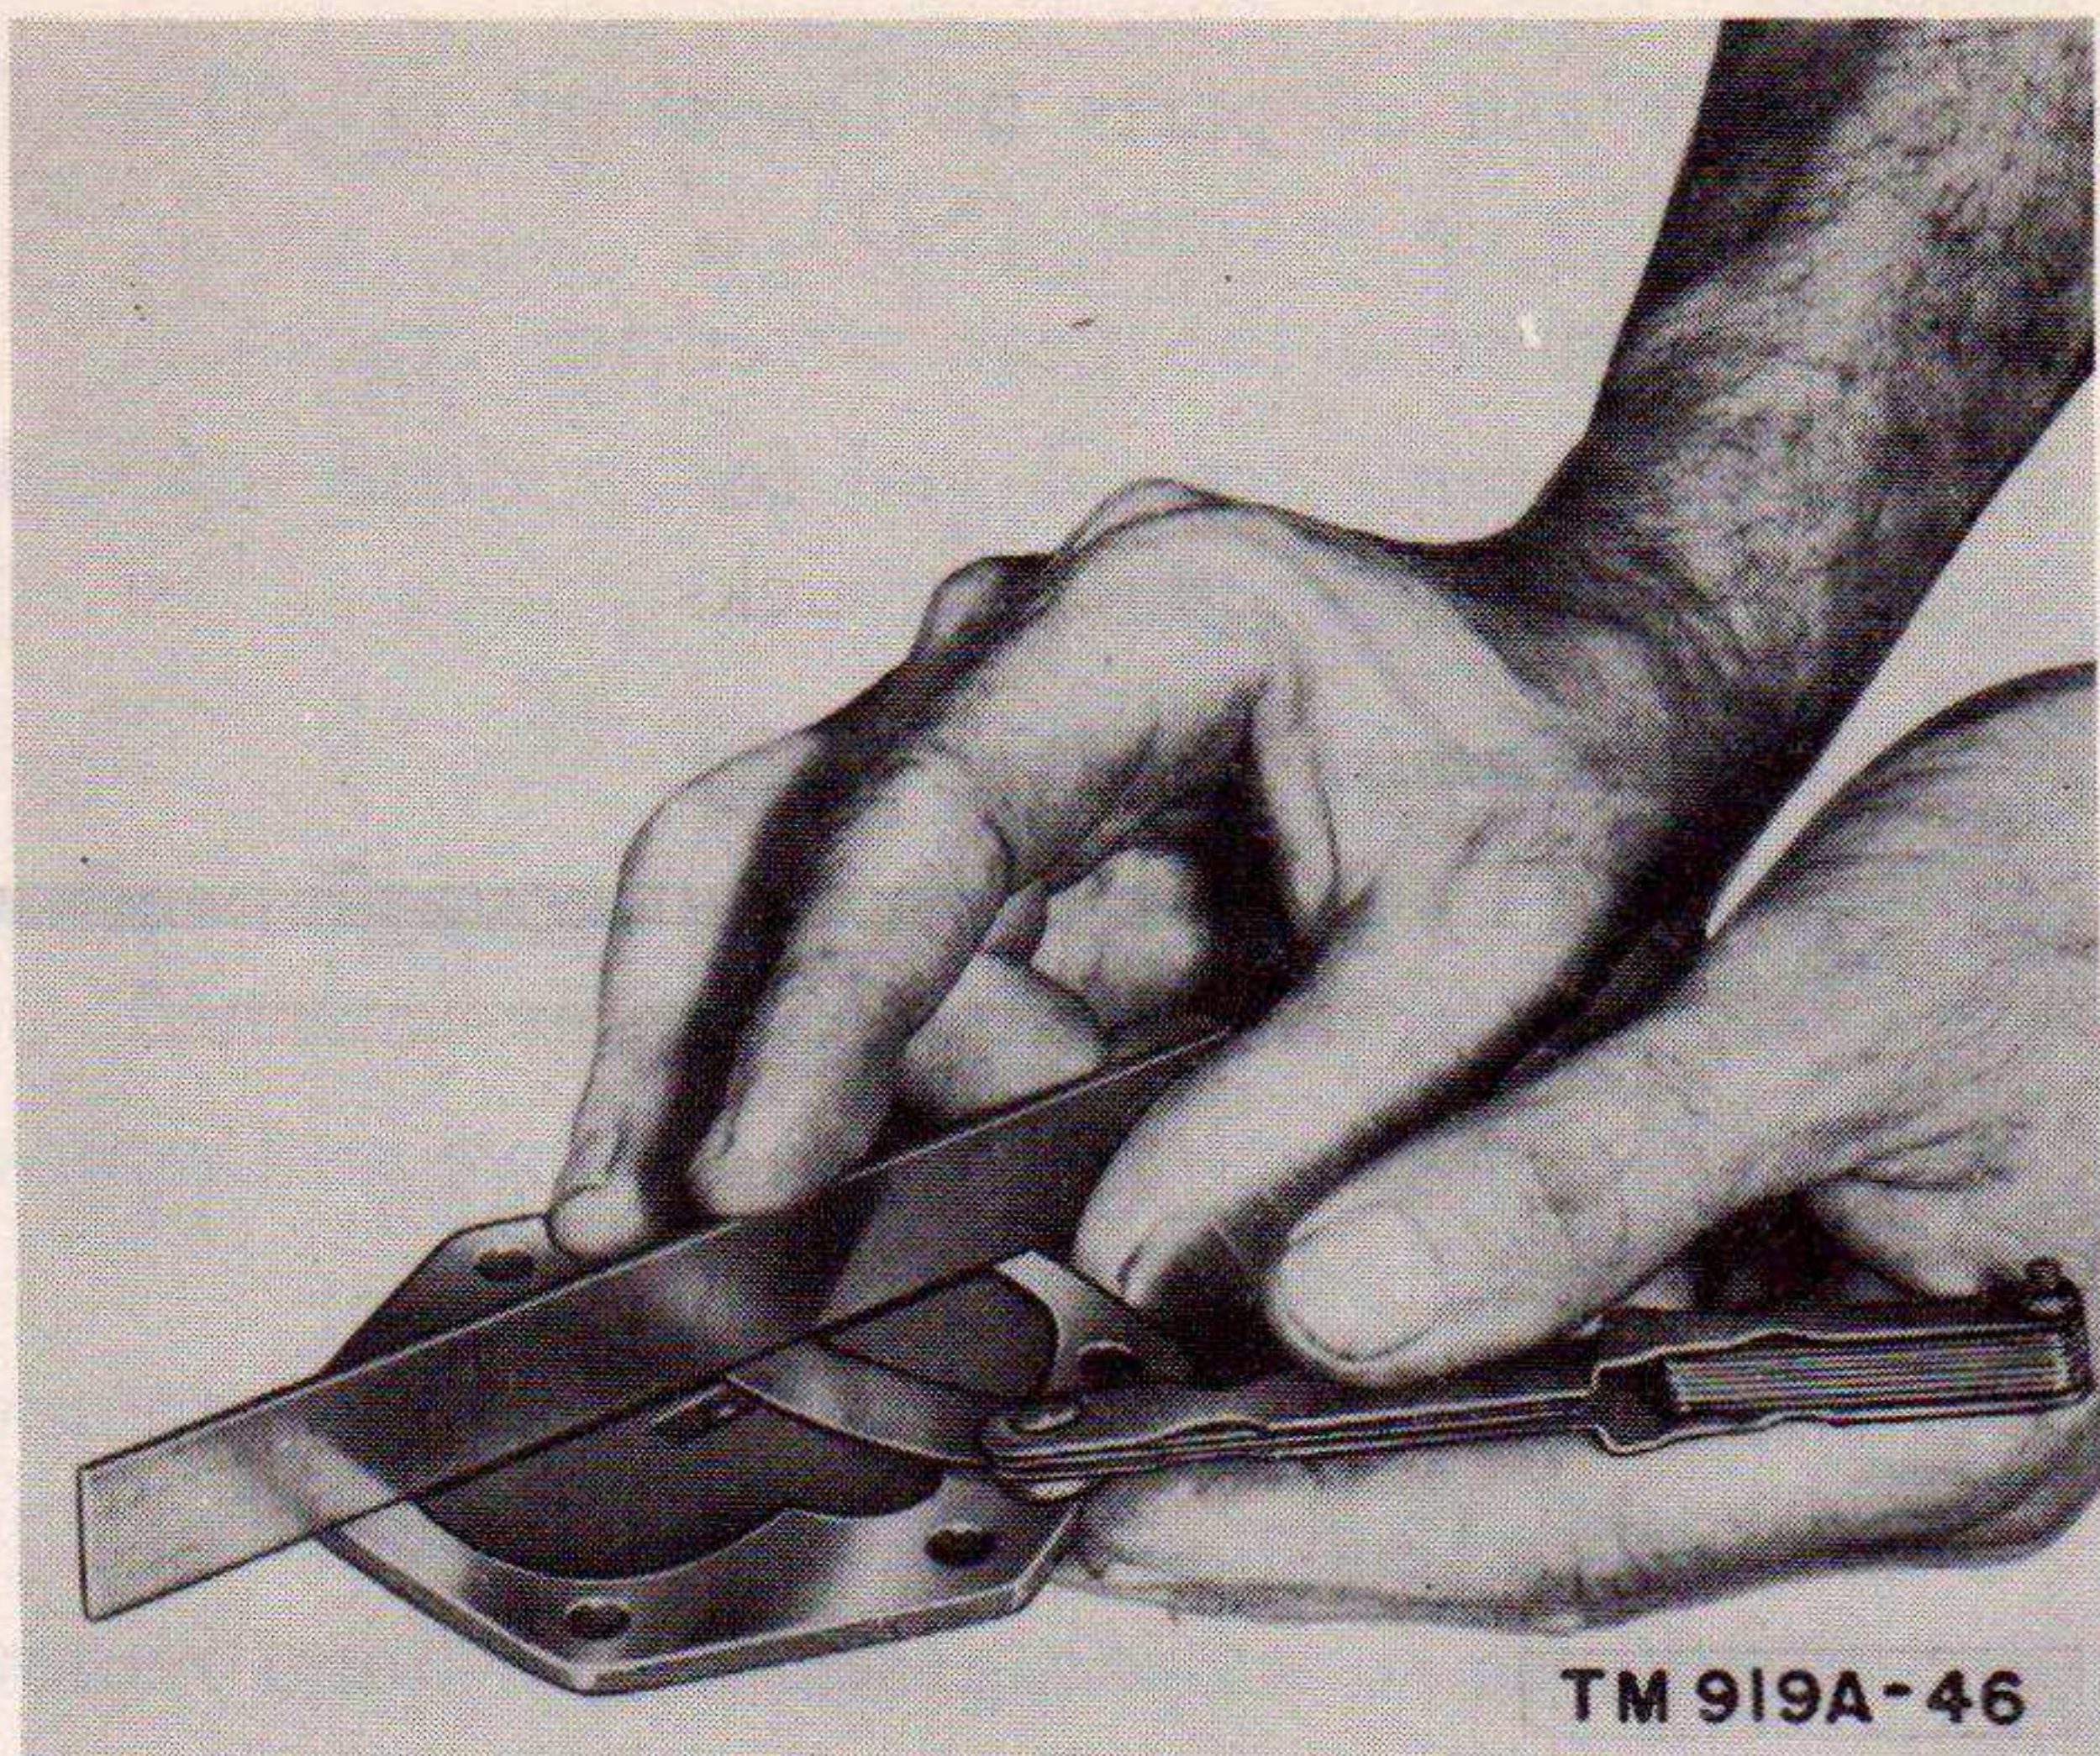

Figure 46. Checking oil pump cover.
- (2) Remove the gear (2) by filing off one end of the pin (3). Then drive out the pin with a small punch. Remove the screen assembly (22), screws (18), spacer (21), strainer screen frame (20), cover (17), and gaskets (16 and 19). The idler gear (14), driver gear (8), and shaft (6) now can be removed through the cover opening. Remove the stud (13) from the body assembly (5).
- (3) Remove the driver gear (8) from the shaft (6) by removing the snap ring (15). Remove the key (7) from the shaft.
- (4) Inspect the gears for pitting, chipping, and excessive wear.
- (5) Inspect the oil pump body for cracks, pitting, corrosion, and general condition.
- (6) Examine the inner surface of the cover for scoring or scratches. Check the flatness of the cover as shown in figure 46. It must be flat within .001 inch. Assemble the gears in the pump body and install the cover without the gasket. Tighten the cover screws to normal tension. It should now be impossible to turn the pump shaft by hand. Remove the cover and replace it with the gasket in position. The shaft should now turn with ease, proving that the end float of the gears is less than the gasket thickness, or .007 inch.